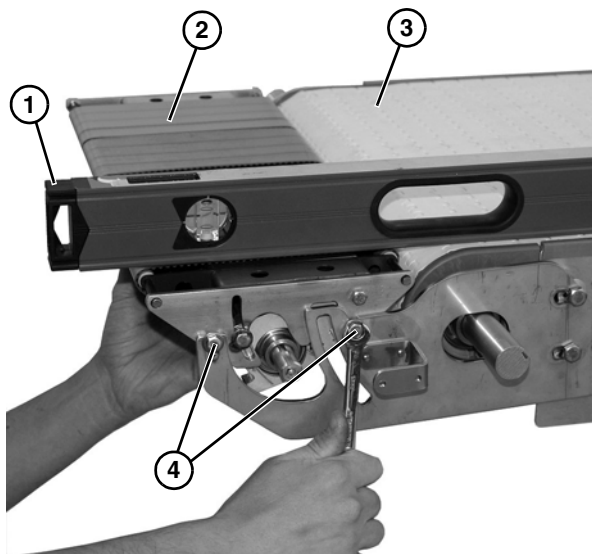

Figure 11
8. To adjust height, place level (**Figure 11, item 1**) or straight edge to level power transfer assembly (**Figure 11, item 2**) with conveyor belt (**Figure 11, item 3**). Tighten two bolts (**Figure 11, item 4**) to secure position.